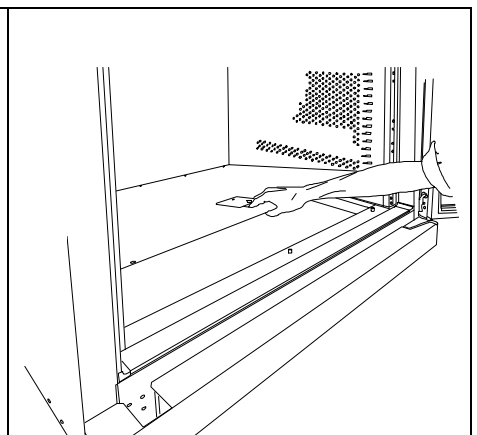

Fig. 3
4. Lift the bottom lid from the pins to remove the bottom lid. See Fig.3.